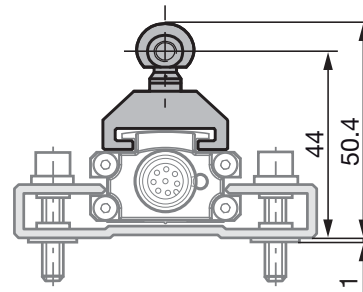
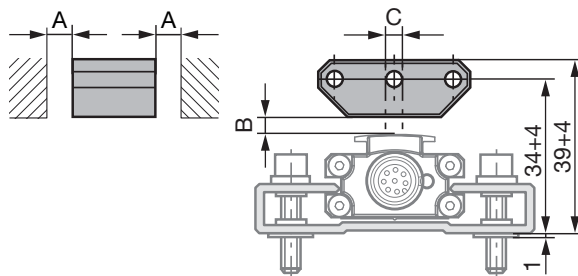

Fig. 4-1: Dimensions and distances with BTL5-F-2814-1S magnet
Fig. 4-3: Dimensions and distances with BTL5-P-3800-2 magnet
- i** The micropulse transducer in profile housing is suitable both for floating, i.e. non-contacting magnets (see Figures 4-3 to 4-7) and for captive magnets (see Figures 4-1 and 4-2).
- Ensure that the distance A between parts made of magnetizable material and the magnet is at least 10 mm (see Figures 4-3 to 4-7).
- Maintain the following values for distance B between the magnet and transducer and for center offset C (see Figures 4-3 to 4-7):
Tab. 4-1: Distance and offset for magnets (see Figures 4-3 to 4-7)